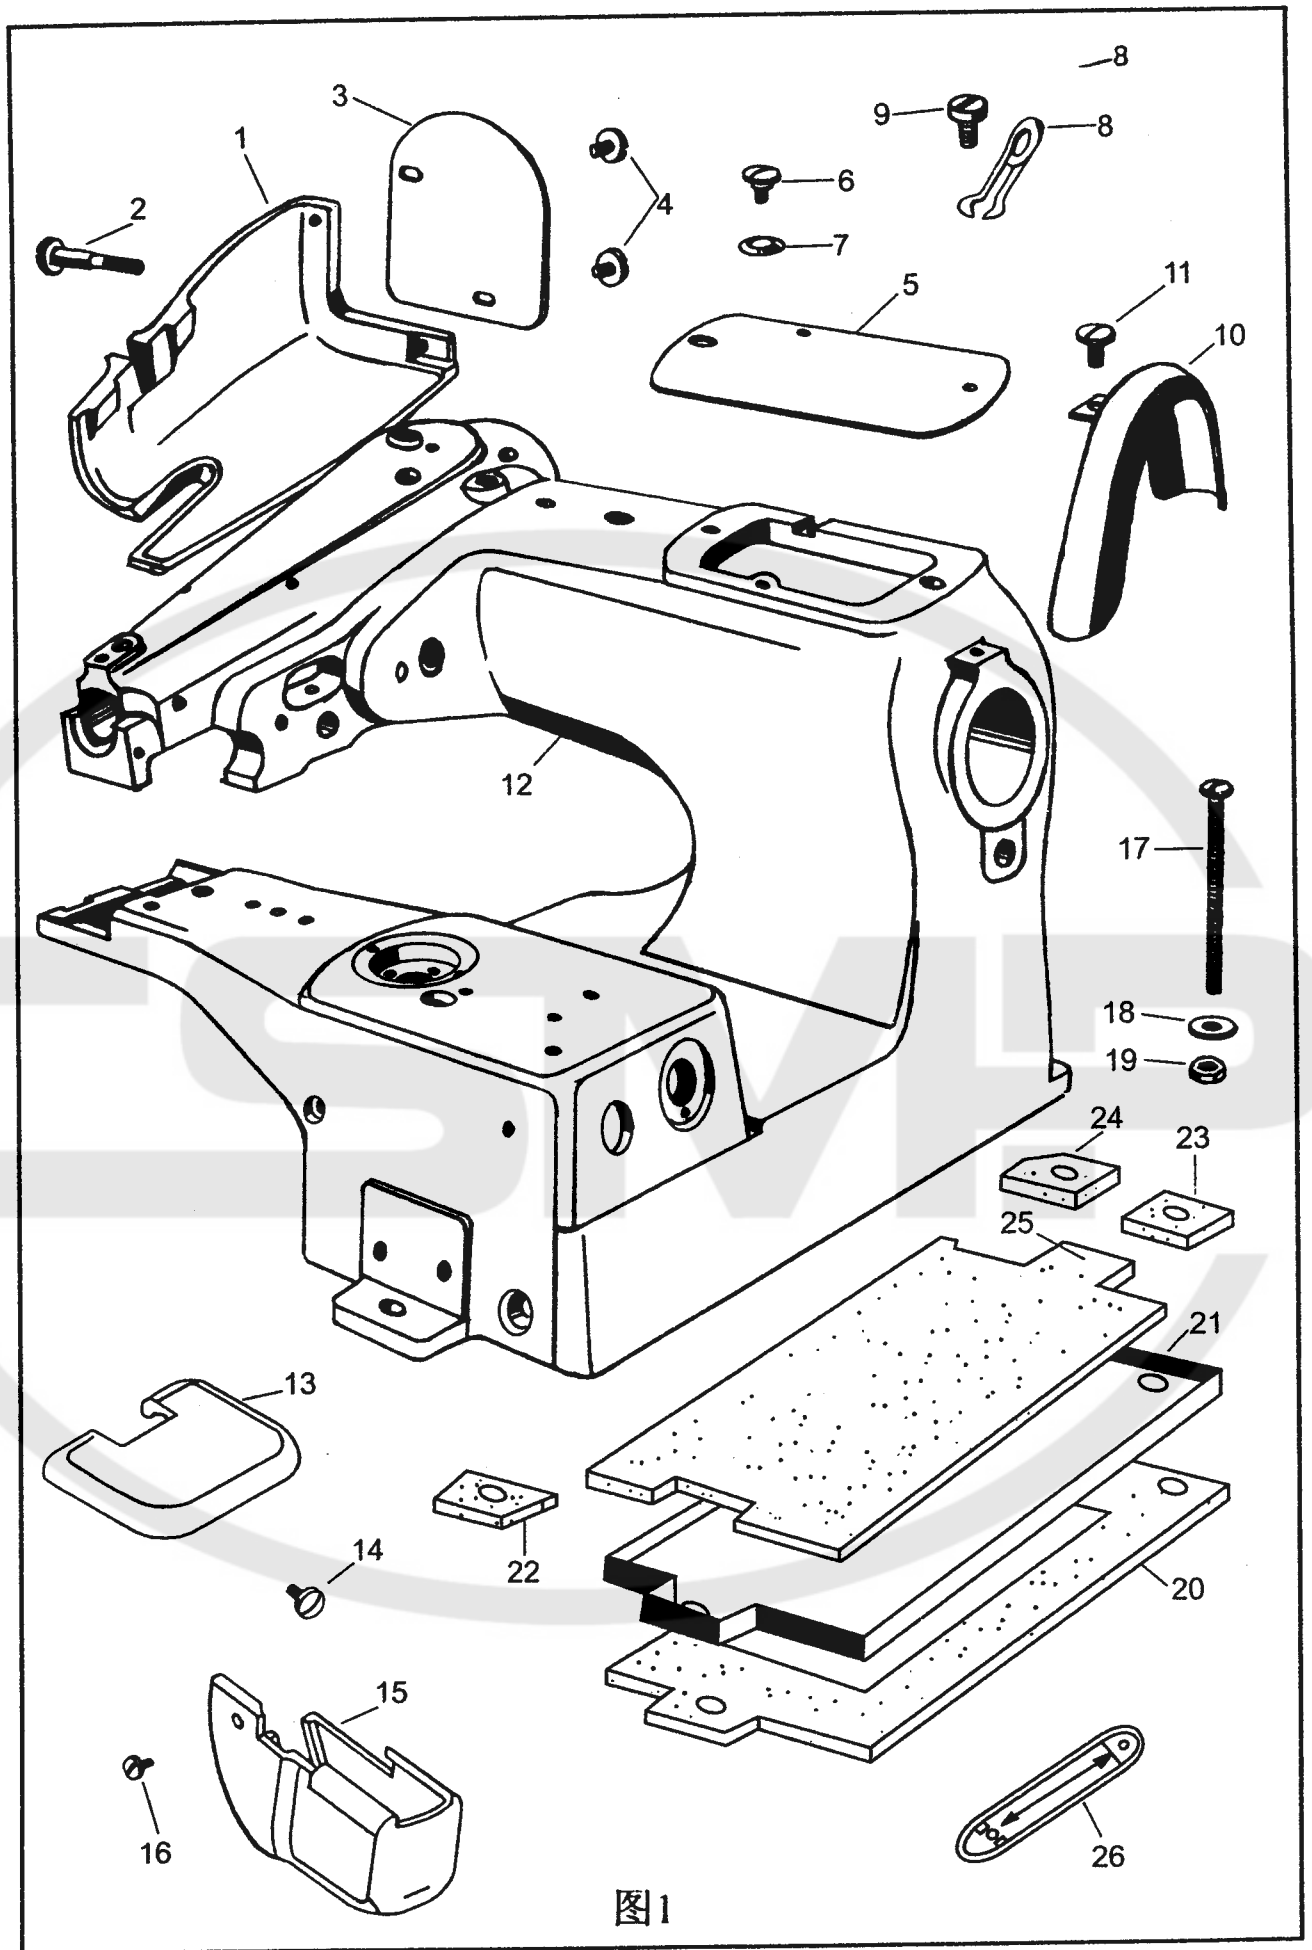

图1
Notice: The distance between small pulley and workplate should be about 60mm. (Fig. 1).
Ref. Fig. 1
3. Lining cloth is installed on the big bulley. (Fig. 1) Clamp the front part of the lining cloth with the clamp. Then above the main material. (Fig. 6)